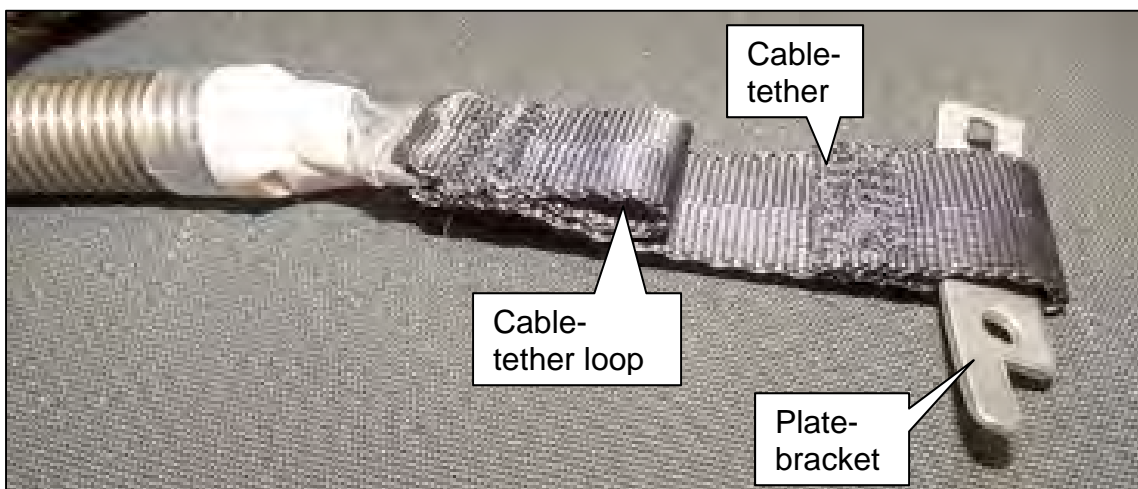

Figure 30
33. Insert the “side specific” plate-bracket through the loop in the cable-tether, as shown in Figure 30.